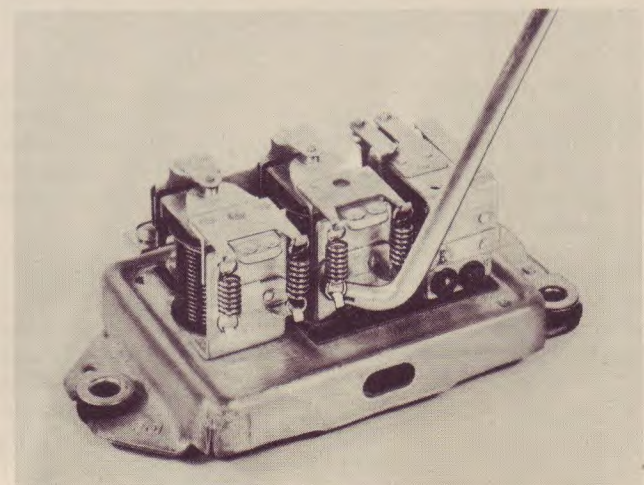

FIGURE 2-18
**The Current Regulator Setting** is adjusted (Figure 2-18) by bending the lower spring hanger of **ONE** spring down to increase the current setting or up to lower the setting. Confine adjustment to one spring only.